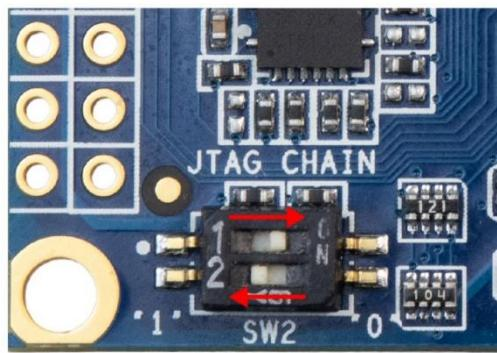

Figure 3-15 SW2 Setting
- Make sure SW2 is changed to correct location, set SW2.1=0 and SW2.2=1, as shown in **Figure 3-15** to ensure MAX10 is on JTAG chain, and RISC-V is off JTAG chain.